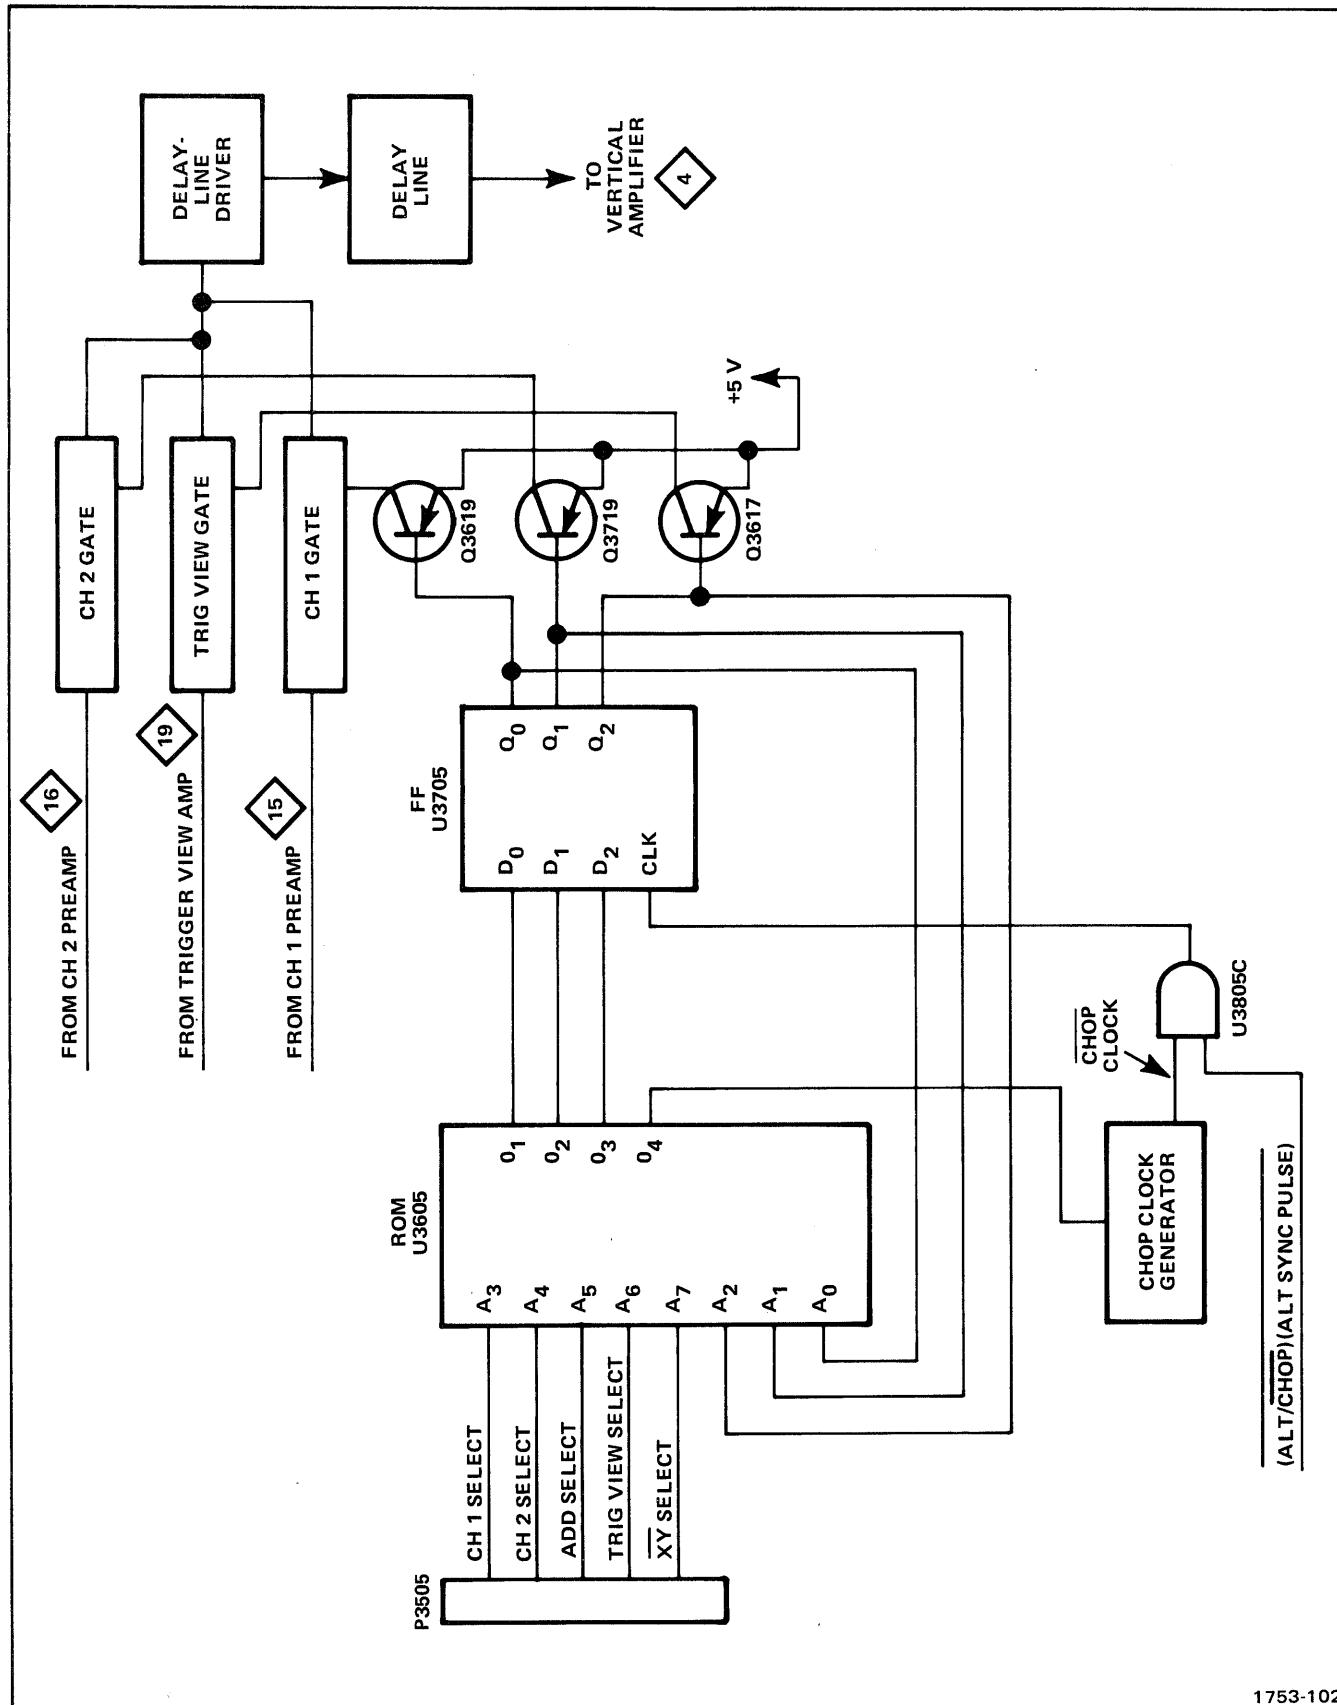

Figure Option 10-2. Simplified block diagram of gate-control logic.
A read-only memory (ROM), U3605, and a quad flip-flop (FF), U3705, form the gate-control circuit. The gate-control circuit responds to inputs from the front-panel VERT MODE control and the A TIME/DIV control by enabling the appropriate diode gate(s). The enabled gate(s) then pass signals to the Delay-Line Driver. Figure Option 10-2 shows details of the gate-control logic.